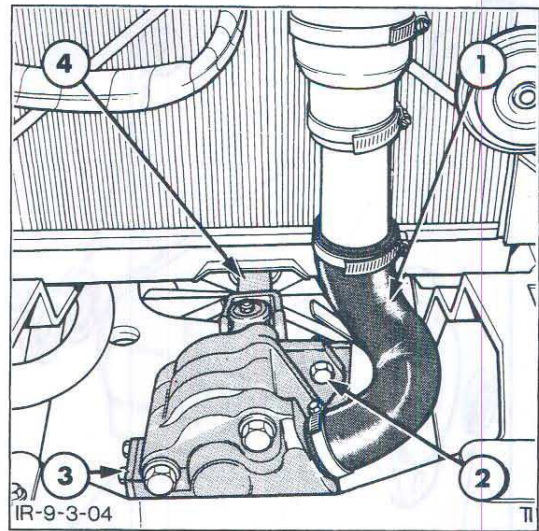

Figure 4
7. Disconnect the reservoir to pump intake hose at the pump connection, refer to Figure 4.